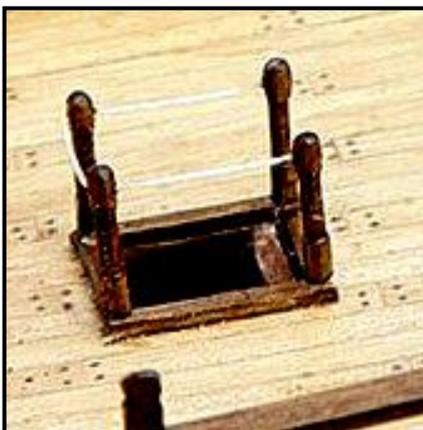

Figure 63: 'Flat' Coamings
Diversiory comment: “Better access from the main deck down to the gun deck” has been suggested by some builders (Fig. 63)
N.B. The two ladders, built from scrap material, shown in Fig. 63 ...